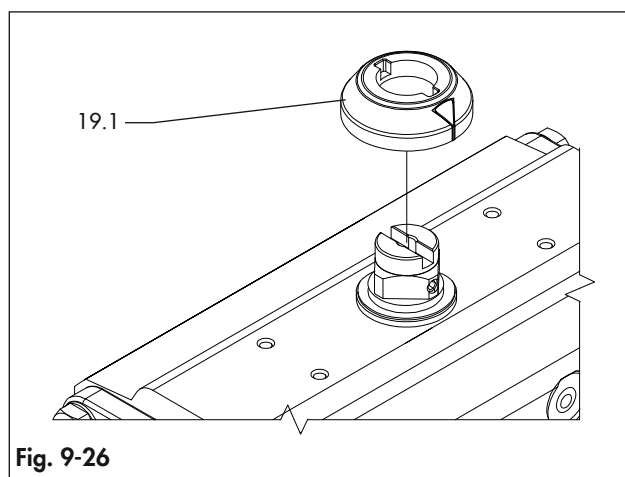
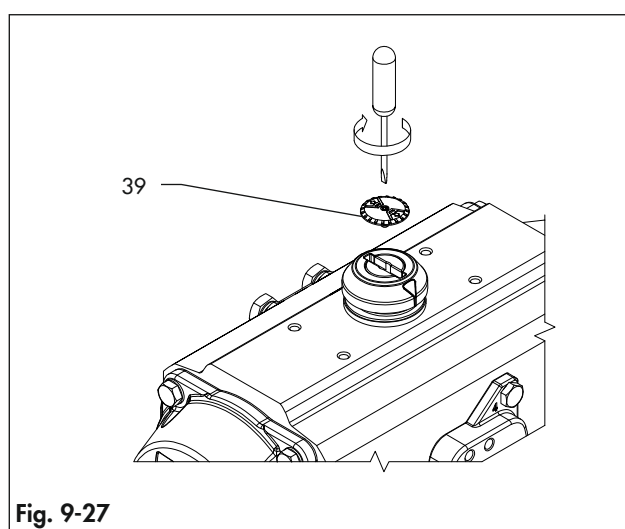

Fig. 9-26
Fig. 9-27
Refer to Fig. 9-1, Fig. 9-26 and Fig. 9-27.
- Fasten the indicator screw (39), if any. (Fig. 9-27)